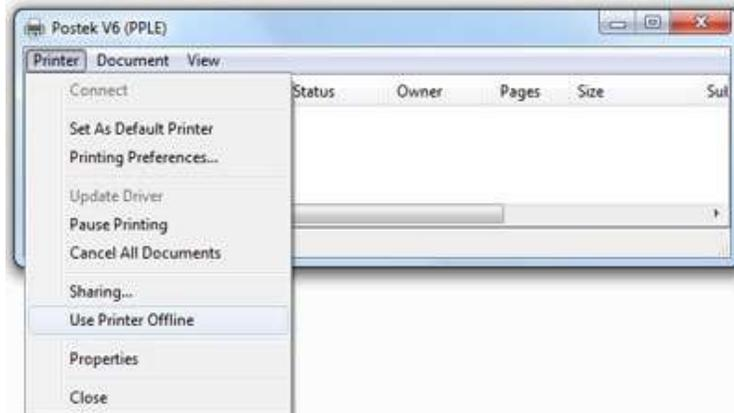

Figure 3-9
6. Make sure the V8i driver remains online. If the printer driver is offline, right click on the driver, choose **Printing preferences**, and click on **See what's printing**. Click **Printer** from the top menu, and set the **Use Printer Offline** unchecked. See Figure 3-9.